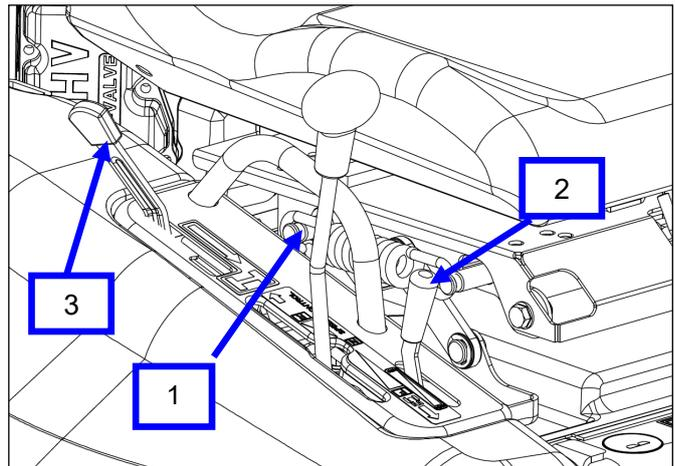
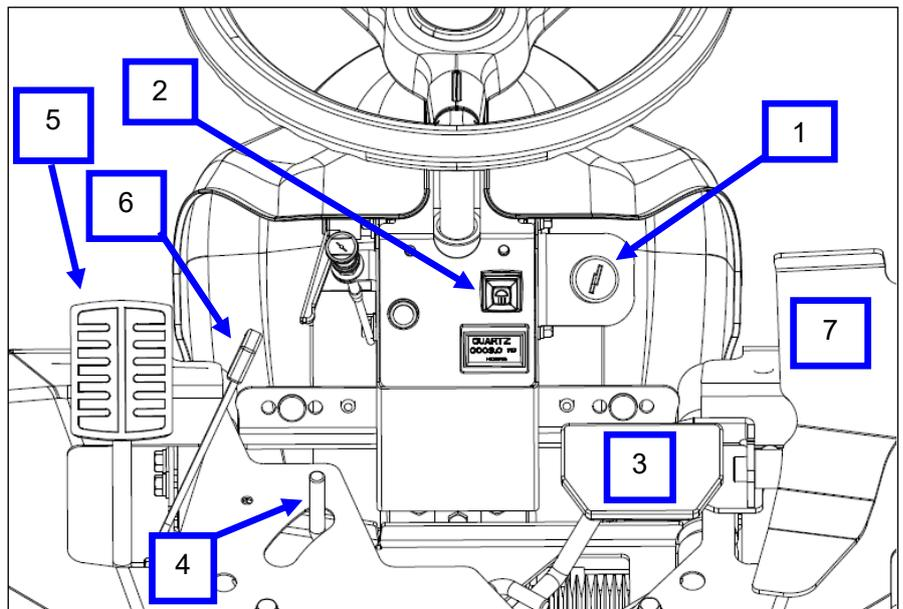

Figure 5
Figure 8
This lever is used to go forward, reverse and stop the machine (1, Figure 5). When the lever is moved rearward to « R » the machine is going on reverse. When lever is moved from « N » to « F » the machine is going forward. When lever is located in « N » position the machine is stopped.
Push the throttle lever(2, Figure 5) forward to increase engine speed, pull the throttle lever rearward to decrease engine speed to idle rpm. Always operate mower at full engine speed.
This lever(3, Figure 5) allows the rear wheels to be driven together in slipping areas. (Figure 5). Apply the diff lock lever when one wheel is slipping in straight line. Release the lever as soon as the machine leaves the slipping area.
The ignition key(1, Figure 8) is used to start and stop the engine.
Push the light switch(2, Figure 8) to turn on the light. Push again to turn off the light.
The brake pedal(3, Figure 8) is used in case of emergency or when the parking brake is locked. When brake pedal is pressed, travel speed lever is automatically moved to neutral position « N ». To lock parking brake, press the brake pedal, then turn the locking lever(4, Figure 8) to the right. Press and release the pedal to unlock the parking brake.
Press this pedal(5, Figure 8) to close the offset deck, and release the pedal to open the offset deck. Use the lock lever(6, Figure 8) to fix the offset deck in closed position. Push the pedal(5, Figure 8) to release the lock lever.
Push the change pedal (7, Figure 8) forward to drive forward, and push it rearward to drive rearward. Depending on the angle of pedal, speed is controlled. When this pedal is not pressed, speed comes back to neutral position. The change pedal is linked with speed control lever (1, Figure 5).